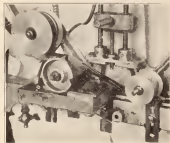

FIG. 11—Application roller for applying wax solution.
(B) An entirely satisfactory mechanism for applying the wax solution is shown in Fig. 11. The film
rollers as first developed by the authors. It is suggested that the single application roller shown in Fig. 11 be fitted to the new type machine.